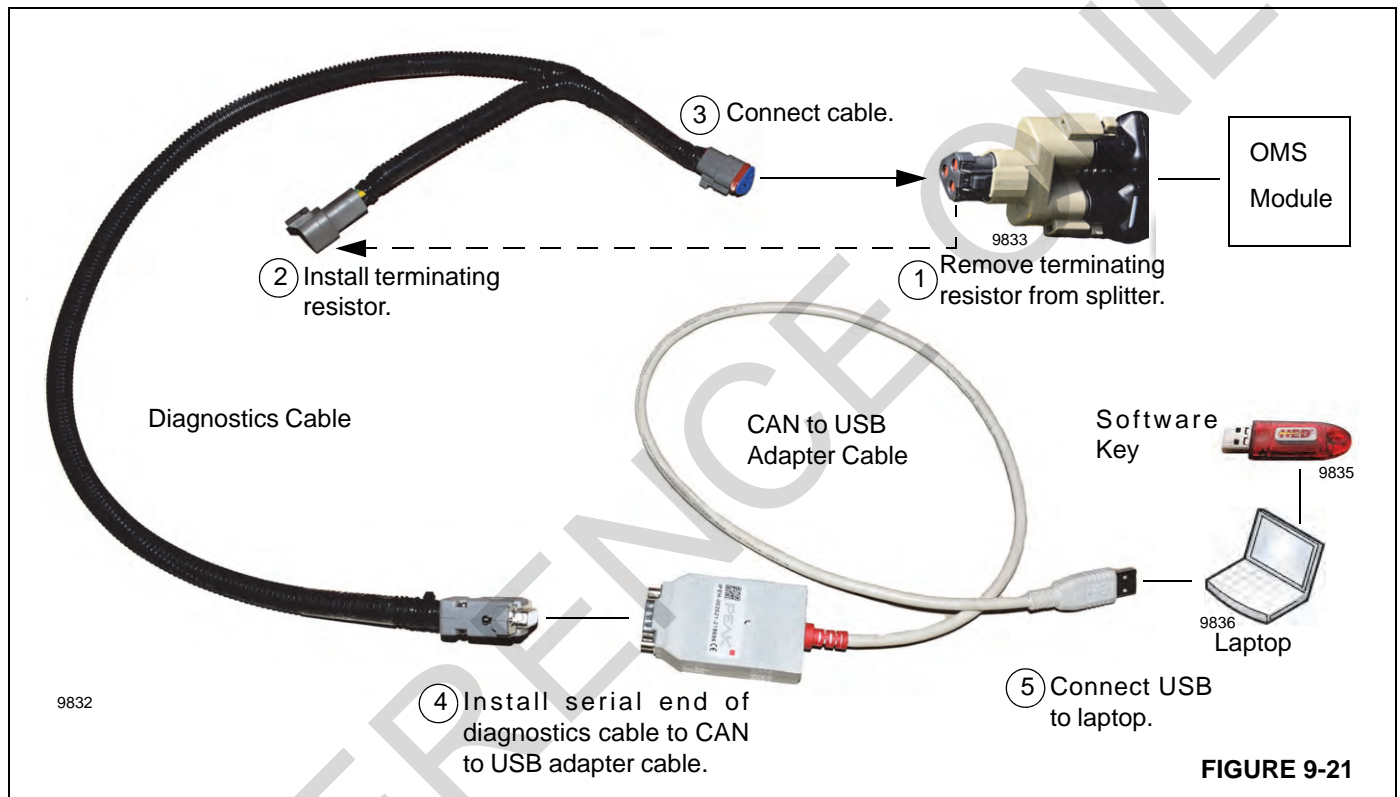

FIGURE 9-21
2. Remove the terminating resistor from the Deutsch splitter (Figure 9-21).